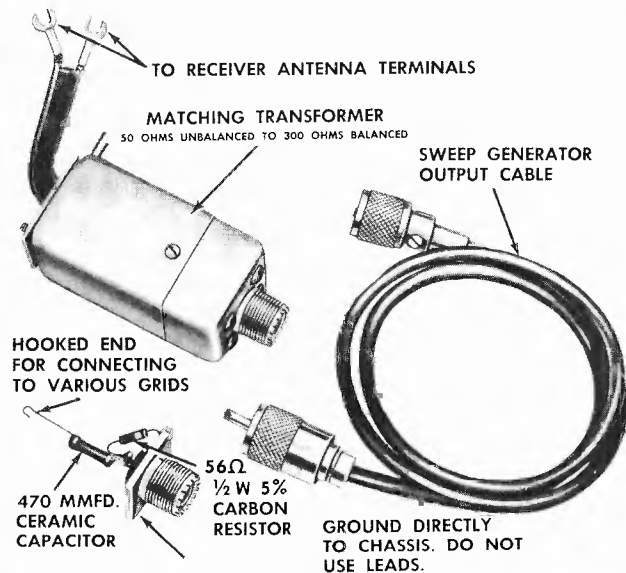
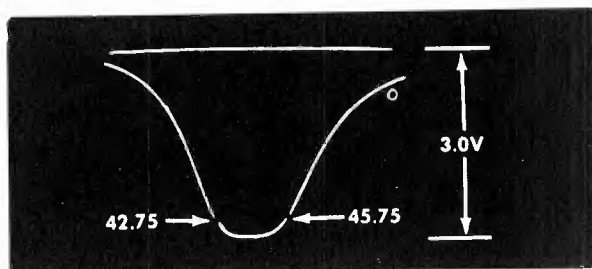
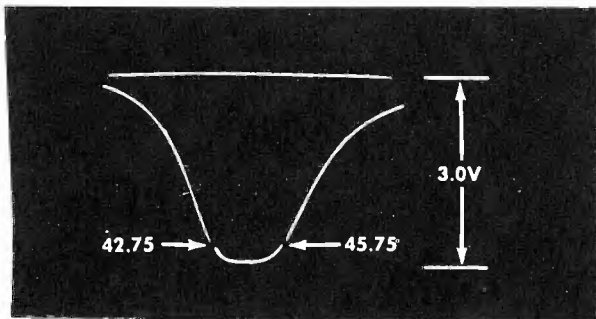

Fig. 1 Alignment Fixtures for RF-IF Alignment.
Fig. 2 4th IF Response Curve
Fig. 5 4th IF Response Curve
3. Feed the sweep generator through a special terminating network as shown in Fig. 1. to Point "G" (Pin 1 of the 3rd IF). Adjust generator to obtain a response similar to Fig. 2. Do not exceed the 3 volt peak to peak detector output during any of the following adjustments.
4. Set the marker generator to 45.75 MHz and alternately adjust the top and bottom cores of the 4th IF for maximum gain and symmetry with the 45.75 MHz and the 42.75 MHz markers positioned as shown in Fig. 2. If the correct response cannot be obtained, check the cores to see that they are not butted but are entering their respective windings from the opposite ends of the coil.
3. Feed the sweep generator through a special terminating network as shown in Fig. 1 to Point 'G' (Pin 1 of the 3rd IF). Adjust generator to obtain a response similar to Fig. 5. Do not exceed the 3 volt peak to peak detector output during any of the following adjustments.
4. Set the marker generator to 45.75 MHz and alternately adjust the top and bottom cores of the 4th IF for maximum gain and symmetry with the 45.75 MHz and the 42.75 MHz markers positioned as shown in Fig. 5. If the correct response cannot be obtained check the cores to see that they are not butted but are entering their respective windings from the opposite ends of the coil.